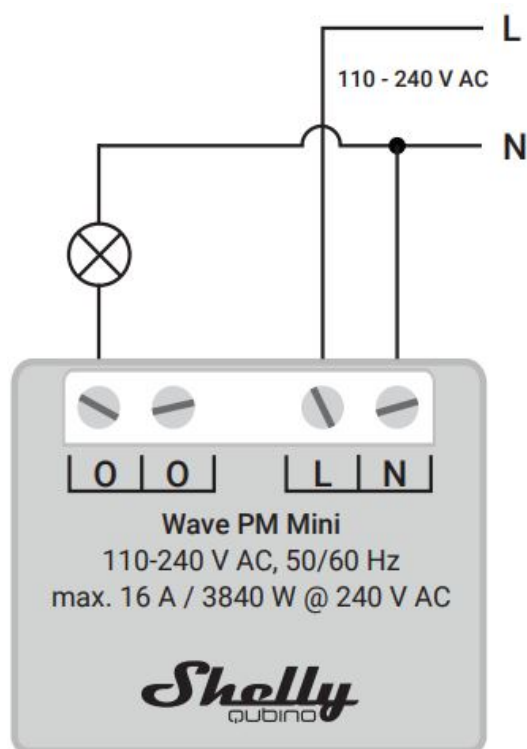

Fig.1/
1. Refer to the wiring schemes (Fig. 1) in the user guide for detailed installation instructions.
2. Connect the loads to the O terminals of the Device and the Neutral wire as shown in Fig. 1.
For the installation instructions, refer to the wiring schemes (Fig. 1) in this user guide.
Connect the load-s to the O terminals of the Device and the Neutral wire, as shown in Fig. 1.